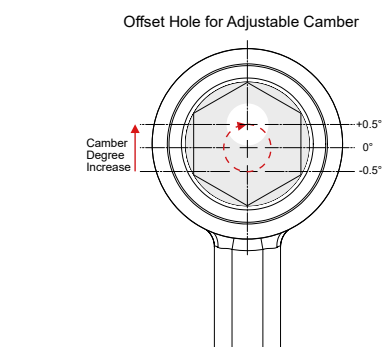

Figure 2
7. For maximum camber use the spanner to rotate the sleeve so that the bore is positioned as shown in figure 2.